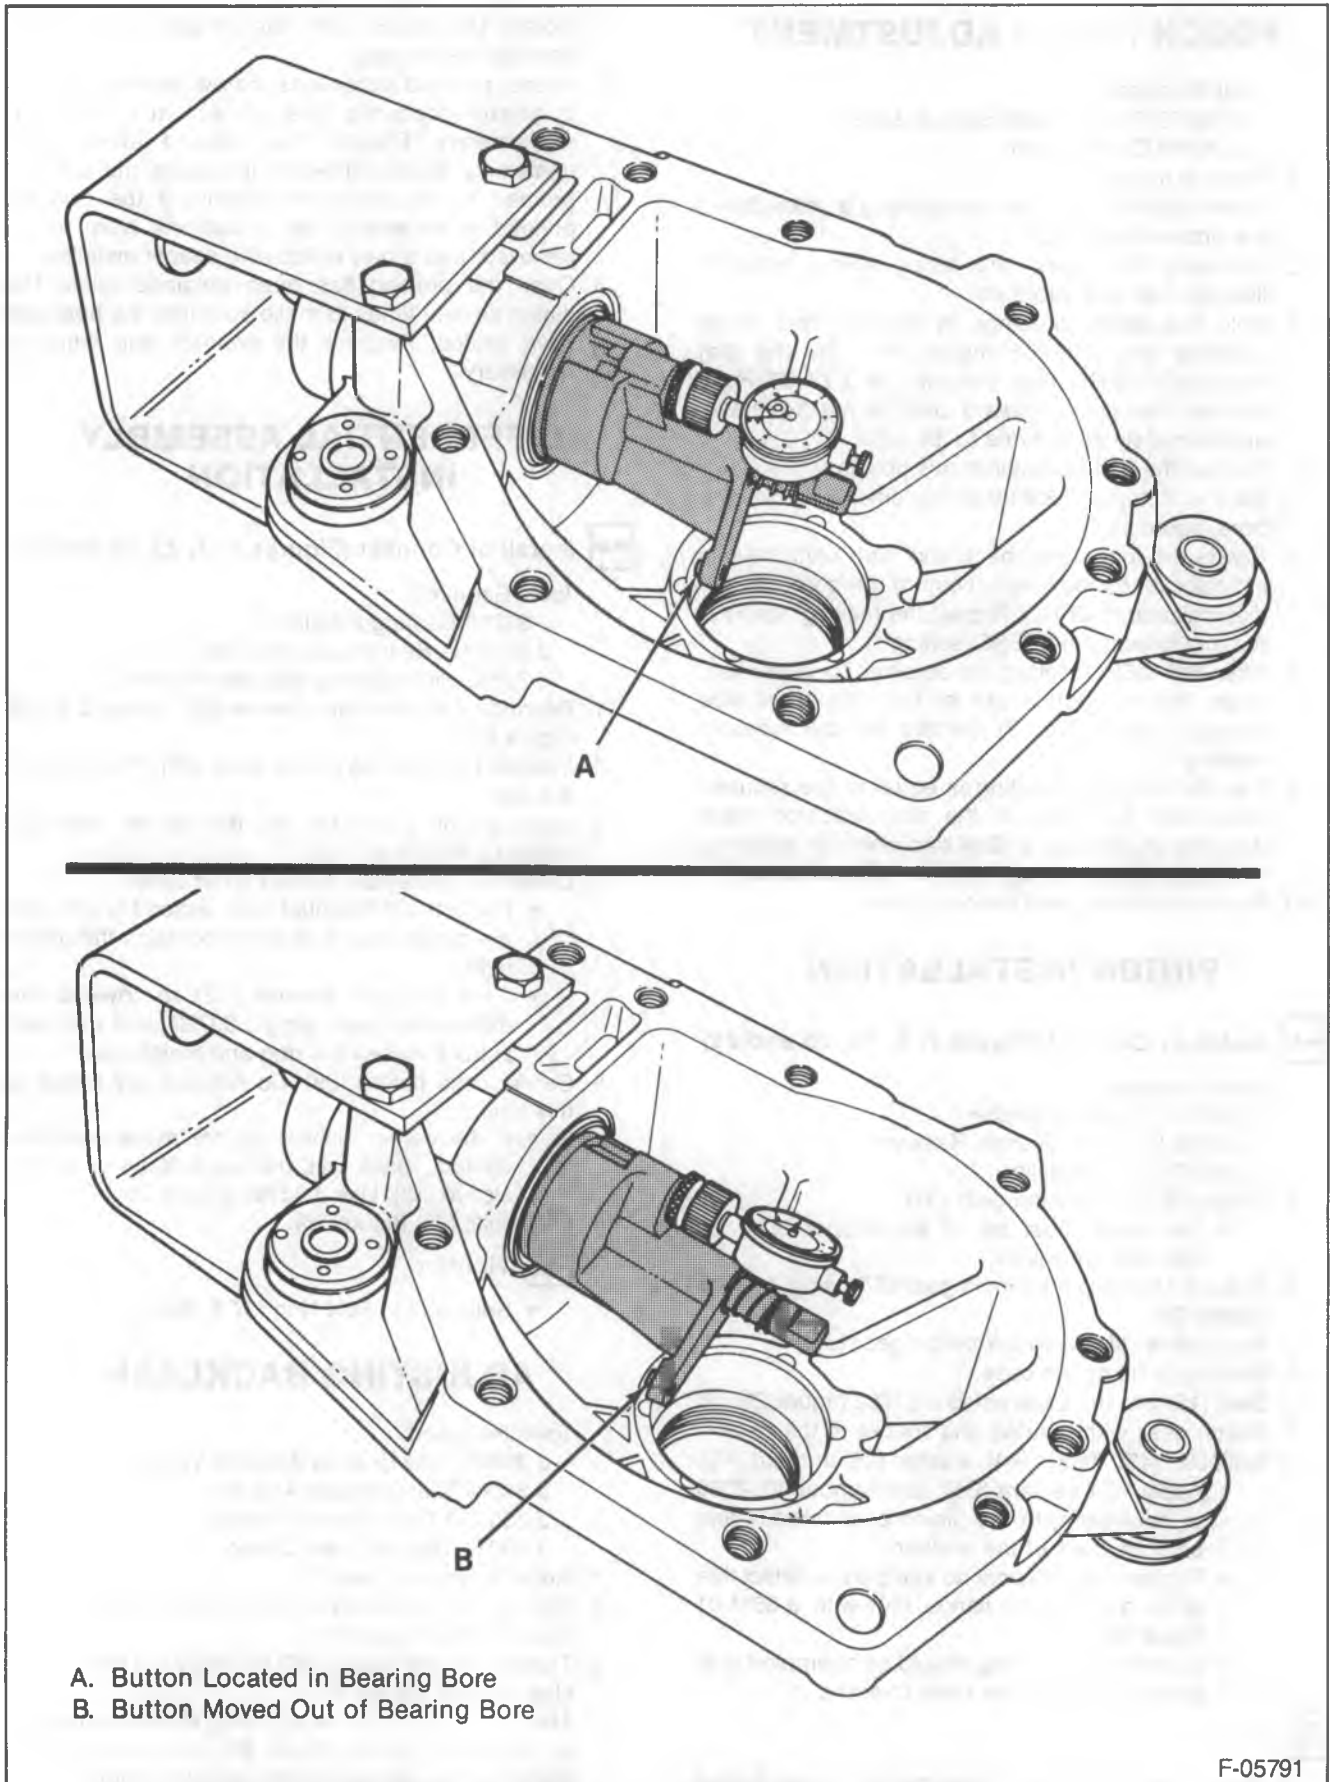

Figure 19—Measuring Pinion Depth
2. Pinion depth is adjusted by selecting a shim (38) of the proper thickness.
4. Hold the pinion bearings in position and install J 33838 and J 29763 (figure 19). Set the dial indicator at ZERO, then position it in J 33838. Push the dial indicator downward until the needle rotates approximately three turns to the right.
6. Set the button of J 33838 on the differential bearing bore (figure 19).
8. After the ZERO setting is obtained and verified, move the tool button out of the differential side bearing bore (figure 19). Record the dial indicator reading.